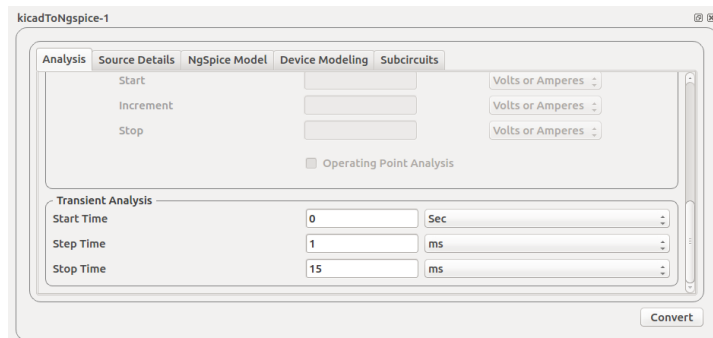

Figure 10.2: Analysis parameters: Low pass filter
2. Create the KiCad netlist. Now the analysis and analysis parameters are given as shown in Fig. 10.2.